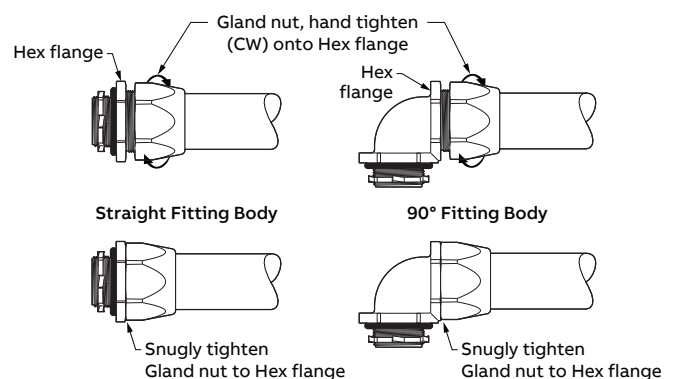

Figure 3
3. Tighten gland nut (clockwise) by hand. Use a wrench to complete tightening until the base of the gland nut is snug to the hex of the body, see Figure 3. **DO NOT OVER-TIGHTEN.**